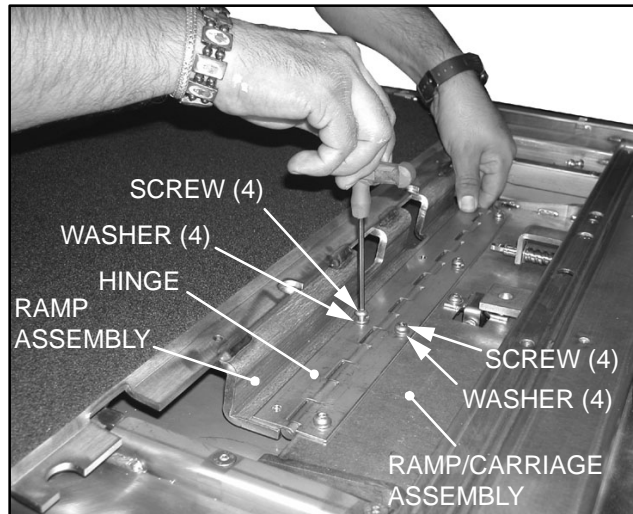

FIGURE 4-21: RAMP/CARRIAGE ASSEMBLY
- g. Refer to **Figure 4-21**. Remove and retain four screws and four washers that attach the hinge to the ramp assembly.
- i. Refer to **Figure 4-21**. Remove and retain four screws and four washers that attach the hinge to the carriage assembly.
- f. Refer to **Figure 4-21**. Align hinge to carriage assembly then install four screws and four washers to attach the hinge to carriage assembly.
- i. Refer to **Figure 4-21**. Align ramp assembly to hinge then install four screws and four washers to attach the hinge to ramp assembly.